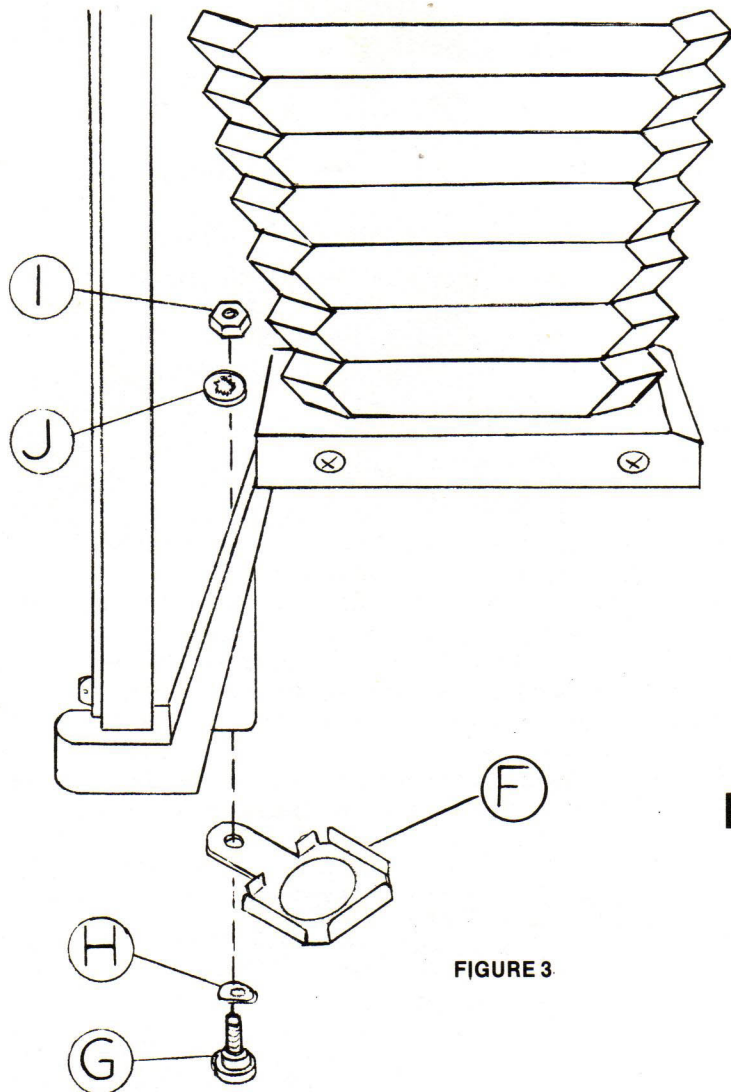

FIGURE 3
- H. Attach Filter Holder to bottom of Lens Stage using Fig. 3 as a guide for assembly.